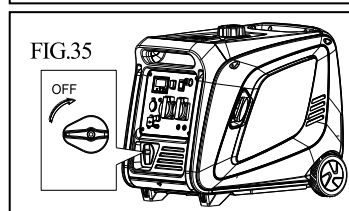

FIG.35
3. Turn the fuel cock lever to **OFF**. **FIG.35**